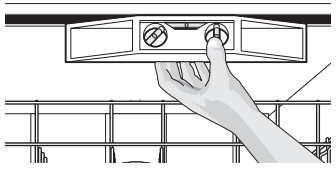

Figure 9a
6. Check that dishwasher is level from side to side by placing a level against the top front section of the tub. **See Figure 9a.**